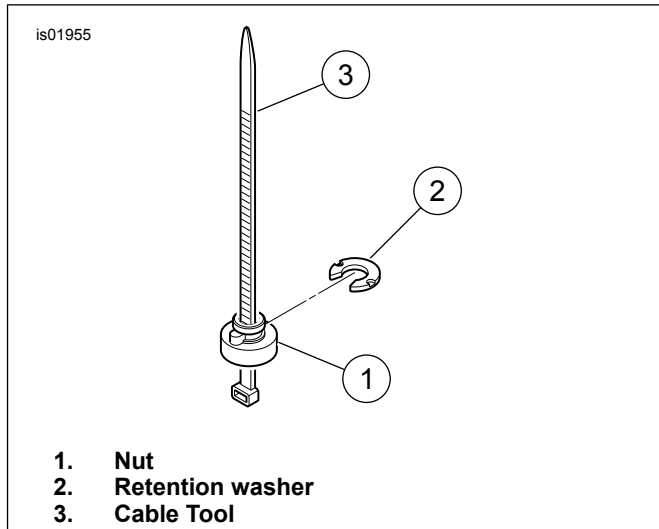

Figure 3. Retention Nut, Washer and Cabel Strap
4. See Figure 3. A cable strap (3) can be used as an installation tool.
- a. Place the retention nut (1) over the cable strap. Position so the wide end of the nut rests on the eye of the cable strap.
- d. Seat the retention nut in the fender hole. Slide the retention washer (2) into place from the rear. The retention nut is now locked in place.